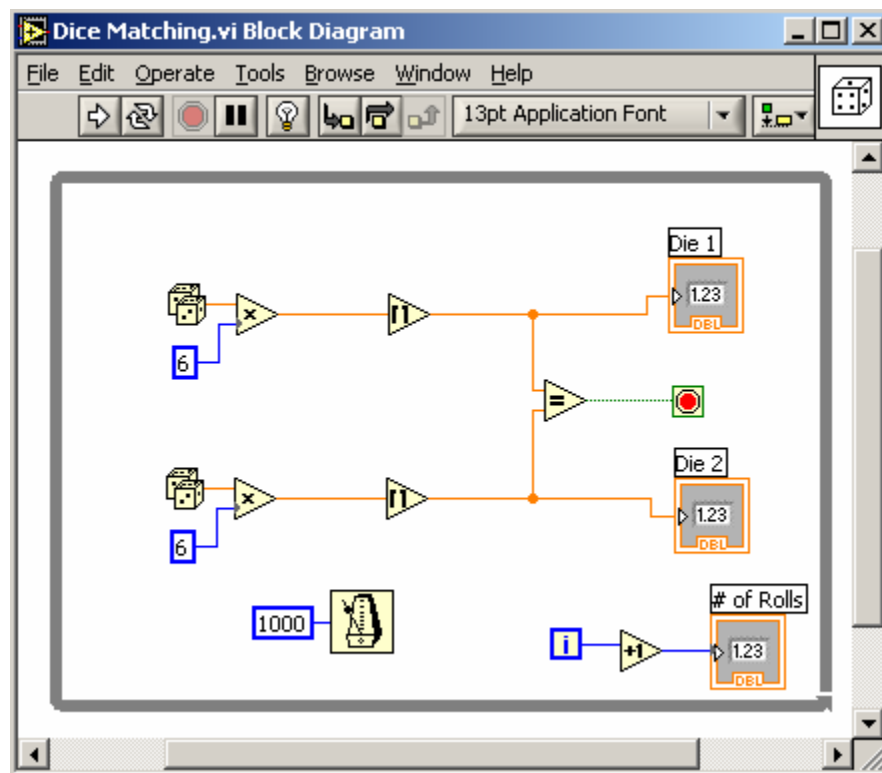

Figure 3.2: Die Matching Block Diagram
4. Wire and arrange the terminals as shown in Figure 3.2, excluding the numerical indicators (Die 1, Die 2, # of Rolls). You will have to create a few constants as well, which can be done by **Right-Clicking** on the appropriate terminal and selecting **Create** → **Constant**.
- iv. Switch back to the **Block Diagram** and drag the **Numerical Indicator Terminals** into the **While Loop** and wire according to the layout shown in Figure 3.2.